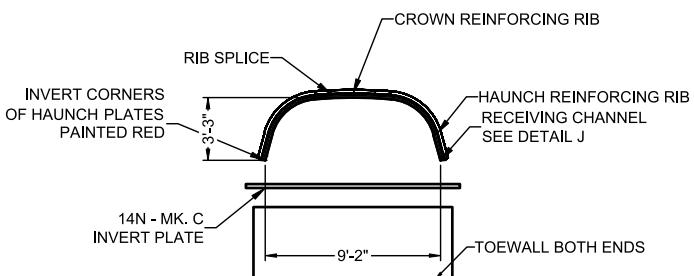

FIGURE 2. PLATE MARKINGS & DETAILS DRAWING
2. Should you encounter unpunched or mispunched holes, merely field drill another 7/8" diameter hole. Reference "Figure 2. Plate Markings and Details Drawing" on page 6 for proper hole position and spacing.
The assembly drawing will have a plan view of the structure showing the outside surface of the structure as if it were laid out flat. The various lengths of plates and special cut plates are assembled or placed in the structure in accordance with the assembly drawing as marked (see Figure 2. Plate Markings & Details). All plates with the same letter are interchangeable and may be placed in any location requiring plates of that letter.